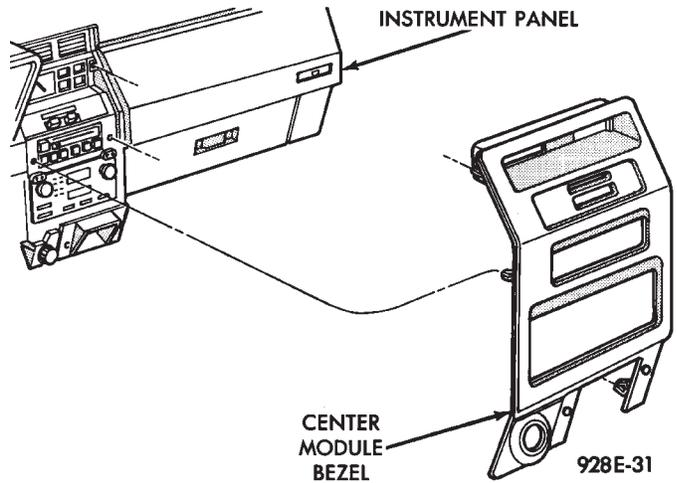
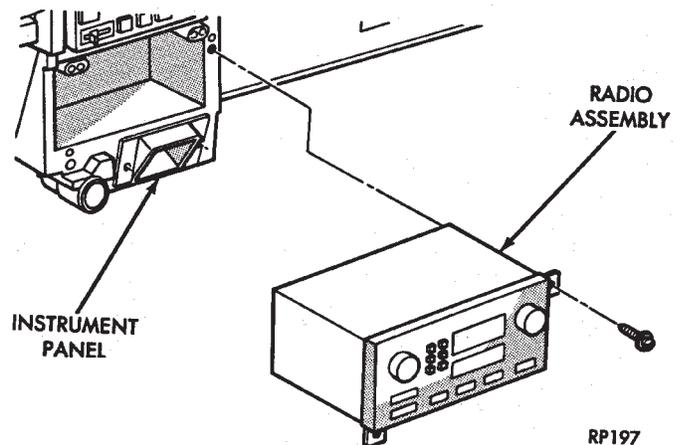

Fig. 7 Center Module Bezel
Fig. 8 Radio Assembly—AP Body
(1) Remove center module bezel (Fig. 7).
(2) Remove lower center module cover if equipped with base console.
(3) Remove right console side wall if equipped with full console assembly.
(4) Remove two mounting screws on the radio and pull out of instrument panel (Fig. 8).
(5) Disconnect wiring and antenna cable.
(6) Remove ground strap from radio.
(7) For installation reverse above procedures.